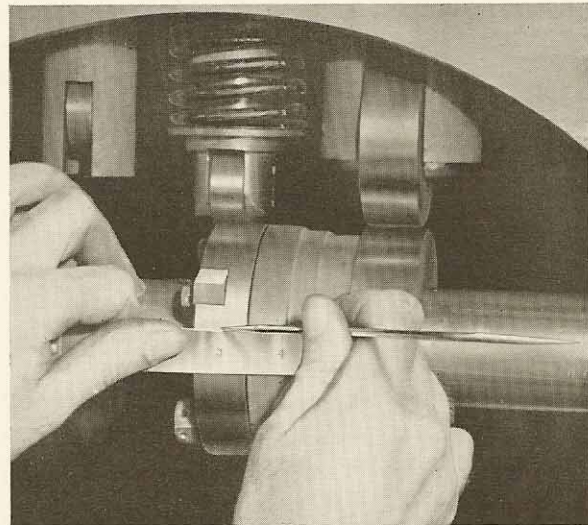

FIGURE 10-10
- B. With a scale or scribe draw a line across the face of the cam as shown in Figure 10-10. Loosen the two $\frac{1}{2}$ -inch cap screws. Do not loosen the $\frac{3}{8}$ -inch cap screw in the cam lobe. As $\frac{1}{64}$ inch of circumference on the face of the fuel cam equals one degree of crankshaft rotation, the cam should be rolled ahead (in the direction the camshaft turns) $\frac{2}{64}$ inch. The distance between the lines can be checked best with a pair of dividers.
- B. With a scale or scribe draw a line across the face of the cam as shown in Figure 10-10. Loosen the two $\frac{1}{2}$ -inch cap screws. Do not loosen the $\frac{3}{8}$ -inch cap screw in the cam lobe. As $\frac{1}{64}$ inch of circumference on the face of the fuel cam equals one degree of crankshaft rotation, the cam should be rolled back in the direction opposite the turning of the camshaft, $\frac{3}{64}$ inch. The distance between the lines can be checked best with a pair of dividers.